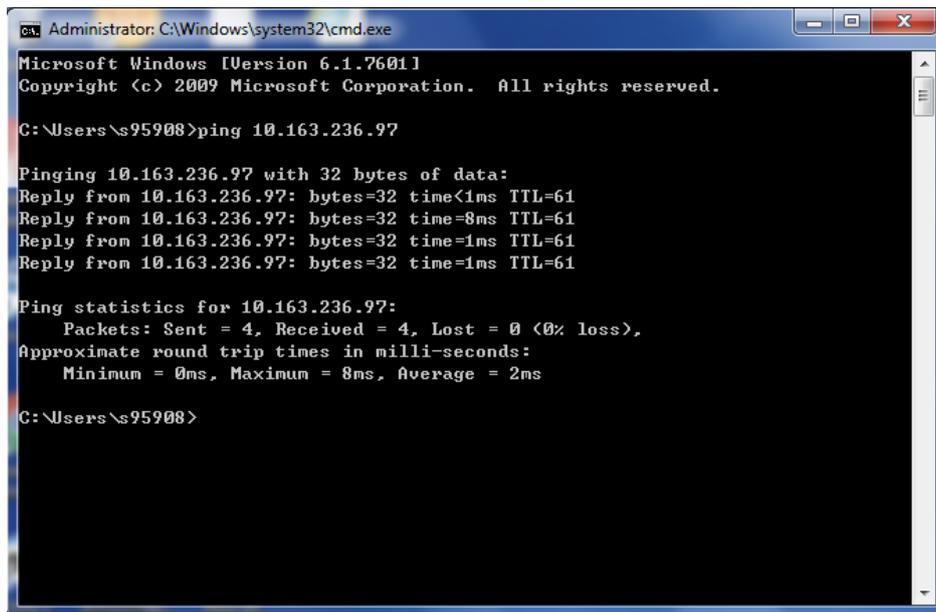

Figure 3-24 Detect network connectivity
2) Press the Enter key and the page as shown in the Figure 3-24 will pop up. Enter "ping" and IP address on the command line (for example, ping 10.163.236.95) to see if the communication is successful.